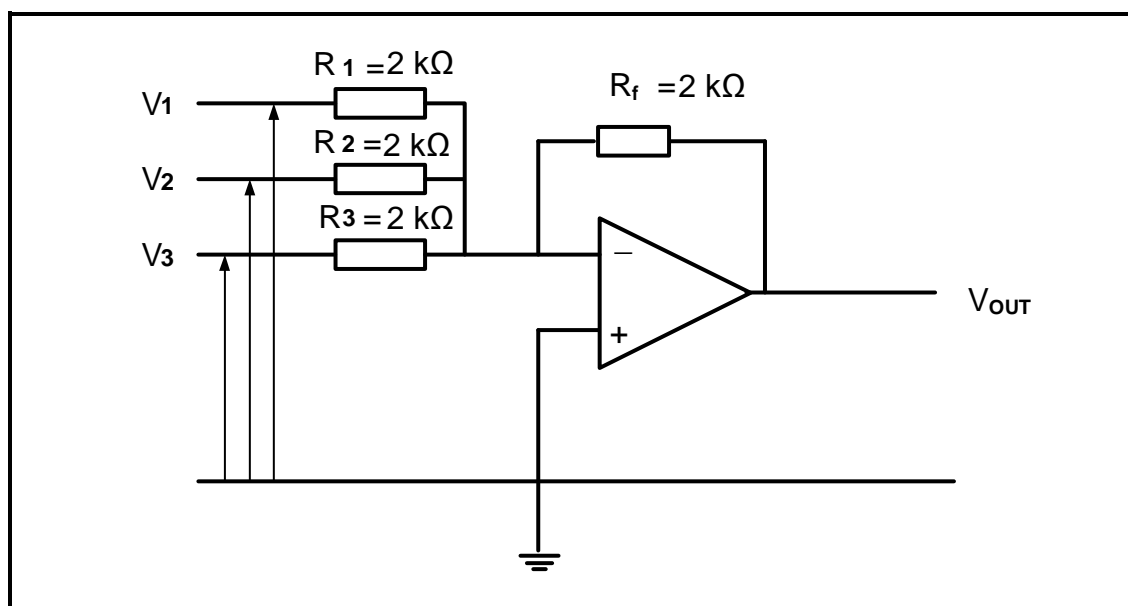

FIGURE 7.5: OP AMP CIRCUIT
7.5 Refer to the circuit in FIGURE 7.5 below and answer the questions that follow.
- 7.5.1 Identify the circuit in FIGURE 7.5. (1)